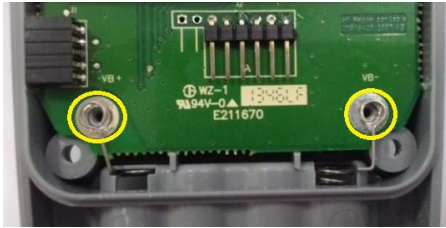

Figure 2-3. Battery spring (marked with yellow circles).
3. After removing the two screws gently remove the battery spring from the housing in order to lift up and replace the main PCBA. (See Figure 2-3)